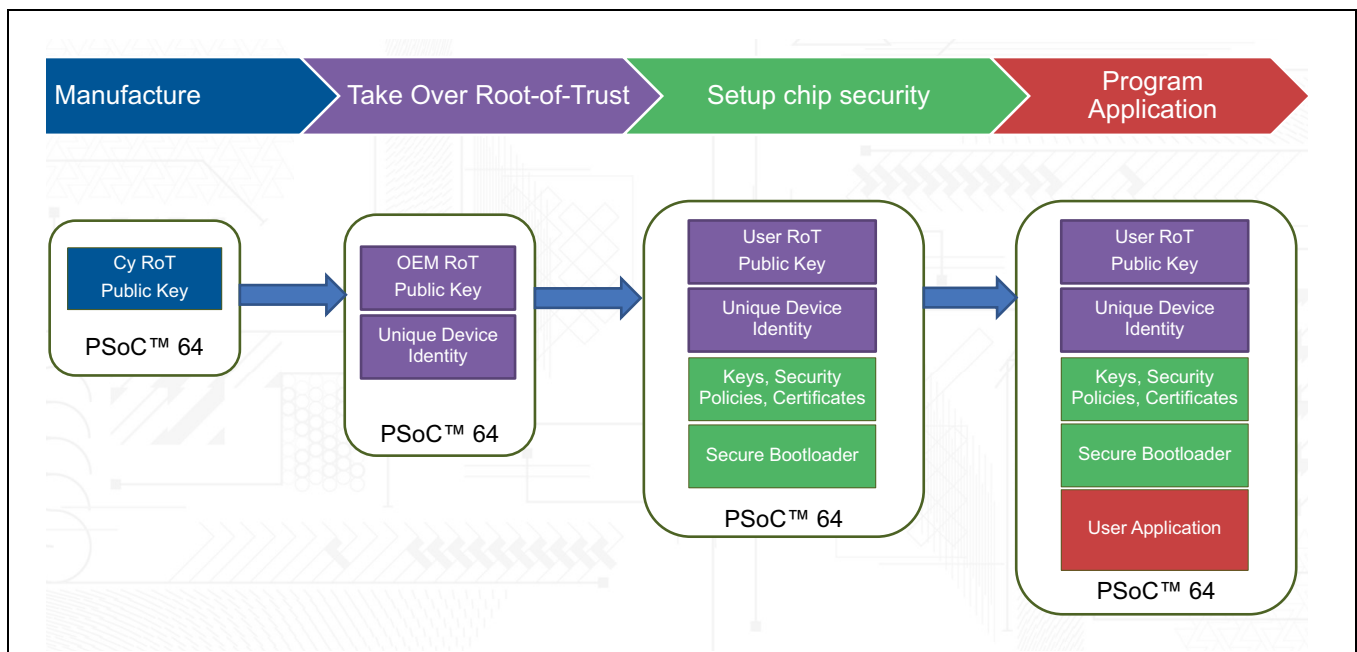

Figure 10 PSoC™ 64 usage processes
- Transfer the RoT from Infineon to the user/OEM, as Figure 10 shows